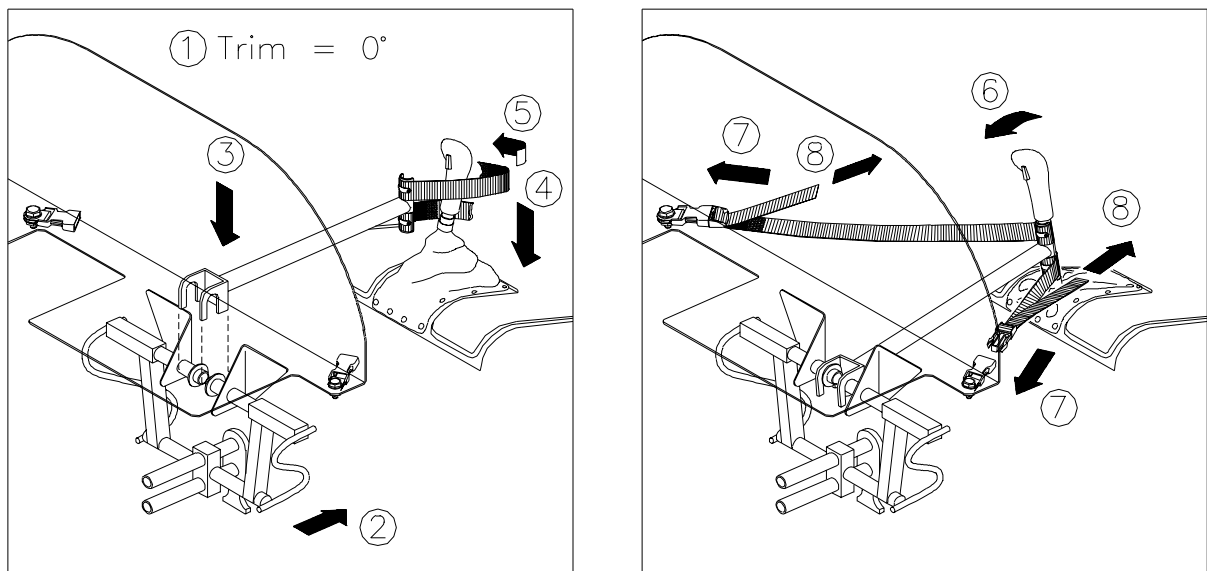

Figure 3.
- 10.23 Hook the Control Lock's forks over the rudder pedal tubes as shown in Figure 3.
- 10.25 Loop the straps around the Control Stick as shown in Figure 3, and push forward on the Control Stick.